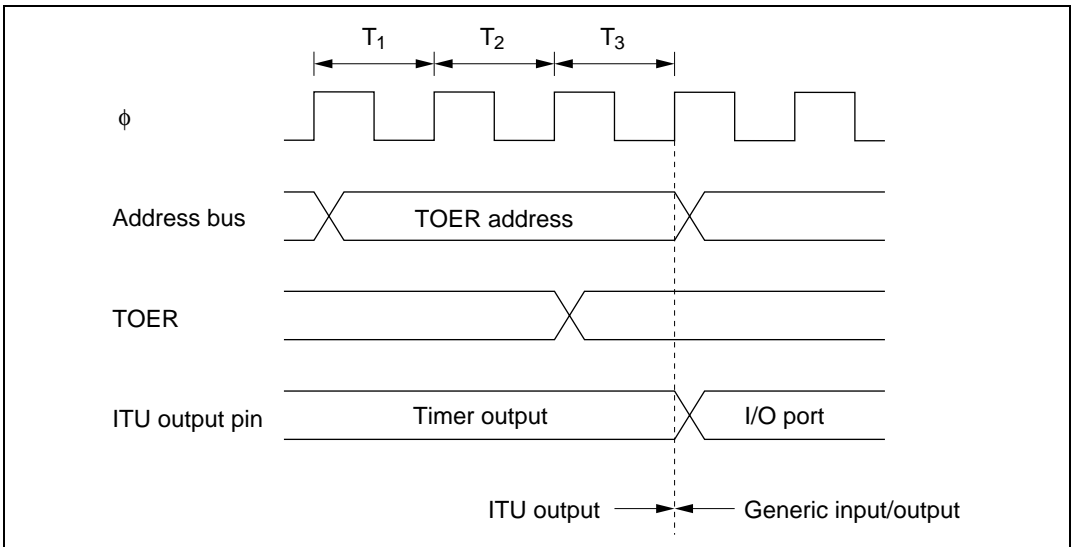

Figure 10.54 Timing of Disabling of ITU Output by Writing to TOER (Example)
In this example an ITU output is disabled by clearing a master enable bit to 0 in TOER. An arbitrary value can be output by appropriate settings of the data register (DR) and data direction register (DDR) of the corresponding input/output port. Figure 10.54 illustrates the timing of the enabling and disabling of ITU output by TOER.